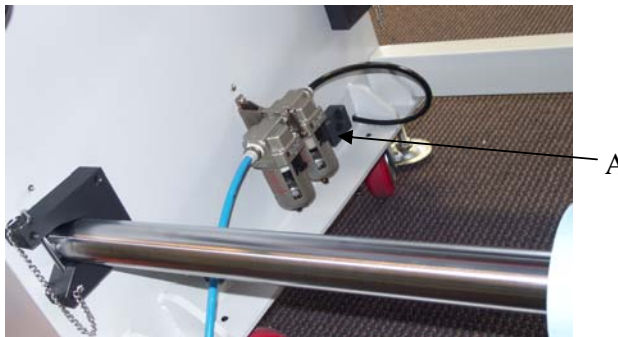

Figure 8
**Chill Idler Storage Area:** (Fig. 8 - Item A)